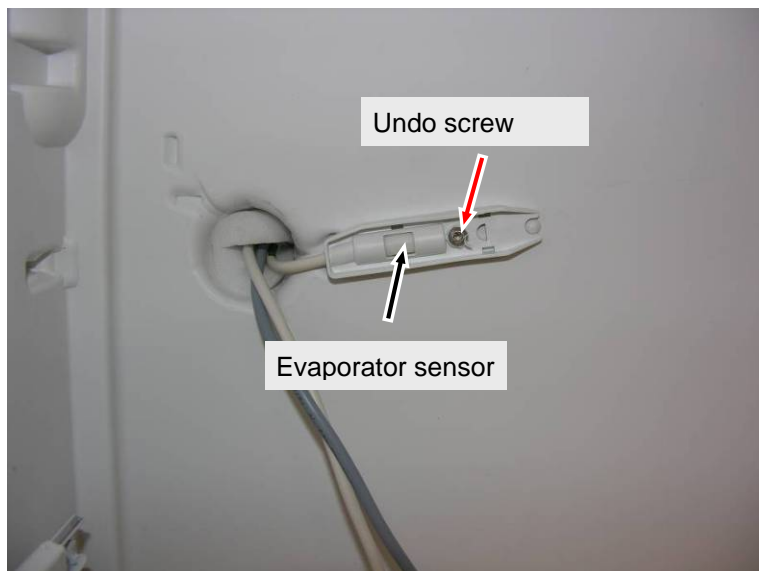

Fig. 5.2.3 / 1 Evaporator sensor
- Release the evaporator sensor mount (**Fig. 5.2.3/ 1**).